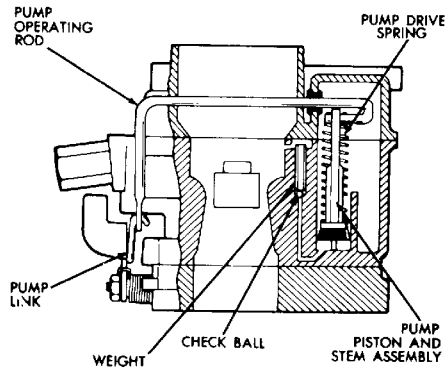

FIG.8. Accelerator Pump System
**ACCELERATOR PUMP SYSTEM (FIG. 8)**